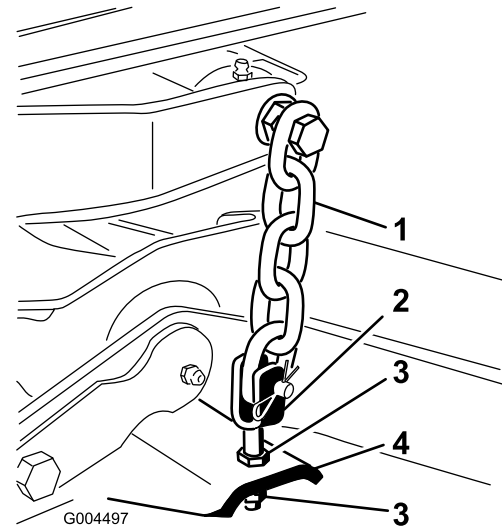

Figure 74
- Adjust the jam nuts securing the rear deck yokes/chains to raise the rear of the deck so that the blade pitch is set to 5/16 inch (8 mm) (Figure 74).